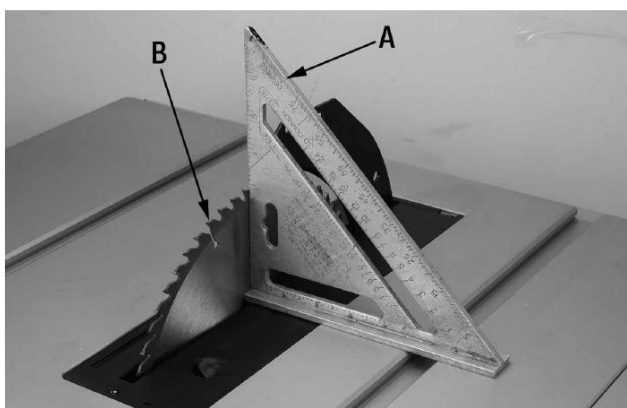

FIGURE 16
1. Place a combination square (A) (not included) Fig.16 on the table and up against the flat portion of the blade (B).